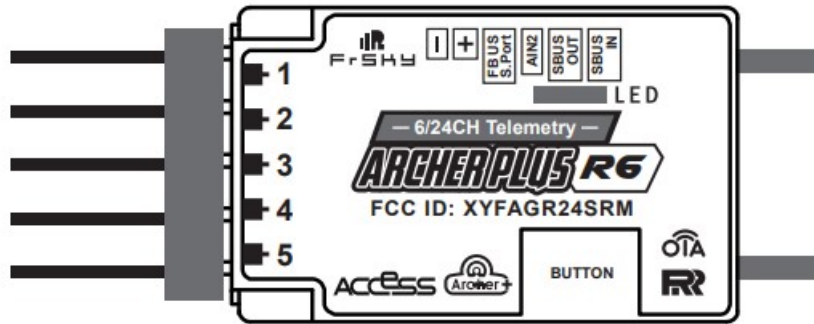

Figure 44: Archer Plus R6
- ii. On the Archer Plus R6, hold down the receiver button while powering up the Archer Plus R6. (Figure 44)